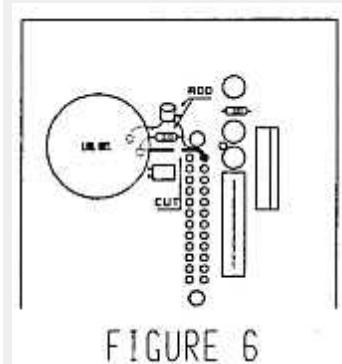

FIGURE 6
9. Also on the component side, cut one foil, add a 220 ohm resistor, and add a 22  $\mu$ F capacitor as shown in figure 6.